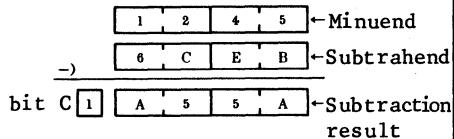

Fig. 2 Example of subtraction when borrow is generated
(1) Function Details <p>(a) Argument details</p> <p>SBED (RAM) : Holds 16-bit binary minuend. After SUB execution, contains subtraction result.</p> <p>SBER (RAM) : Holds 16-bit binary subtrahend.</p> <p>Bit C (CCR): Indicates whether borrow is generated or not after SUB execution.</p> <p>Bit C=1 : Borrow is generated in subtraction result. (see Fig. 2)</p> <p>Bit C=0 : No borrow is generated in subtraction result.</p>